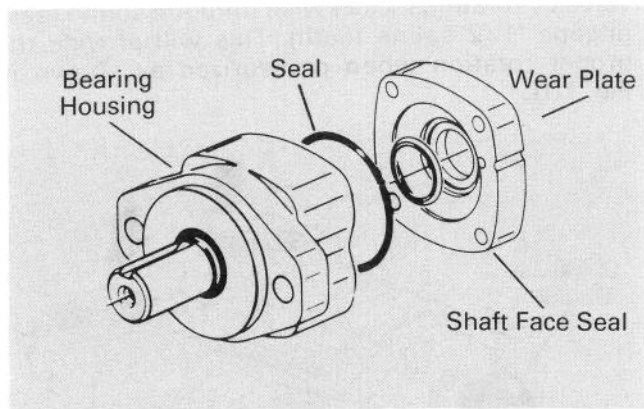

Figure 96
17. Remove the wear plate (Fig. 96).
18. Remove the shaft face seal from the wear plate (Fig. 96).
19. Remove the 3" diameter seal from bearing housing (Fig. 96).